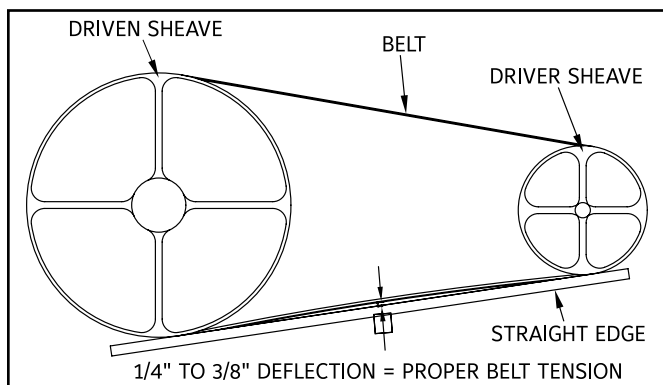
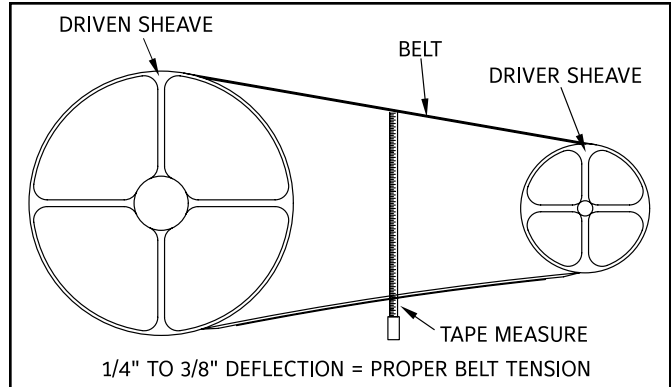

Figure 15a: Checking Belt Tension
Figure 15b: Checking Belt Tension
To properly adjust the belt tension, position the fan motor so that moderate pressure on the belt midway between the sheaves will produce the deflection shown in Figures 15a and 15b.
1. Place a straight edge along the belt from sheave to sheave as shown in Figure 15a, or use a tape measure as shown in Figure 15b, to measure belt deflection.
3. There is adequate belt tension if the belt deflects between 1/4" and 3/8" as shown in Figures 15a and 15b.